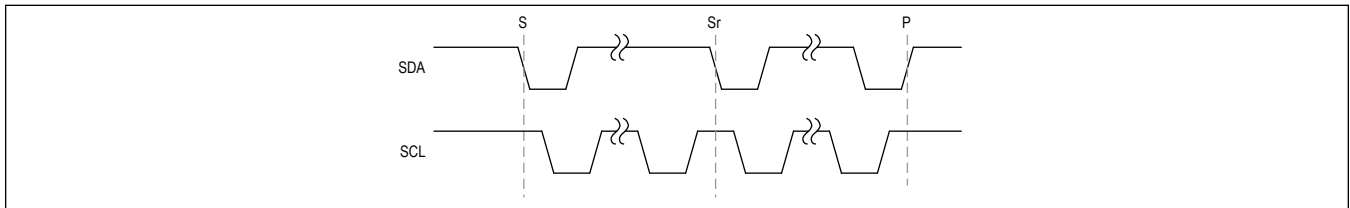

Figure 2. START, STOP, and REPEATED START Conditions
A controller device initiates communication by issuing a START condition. A START condition is a high-to-low transition on SDA with SCL high. A STOP condition is a low-to-high transition on SDA while SCL is high (Figure 2). A START (S) condition from the controller signals the beginning of a transmission to the MAX20480. The controller terminates transmission and frees the bus by issuing a STOP (P) condition. The bus remains active if a REPEATED START (Sr) condition is generated instead of a STOP condition.